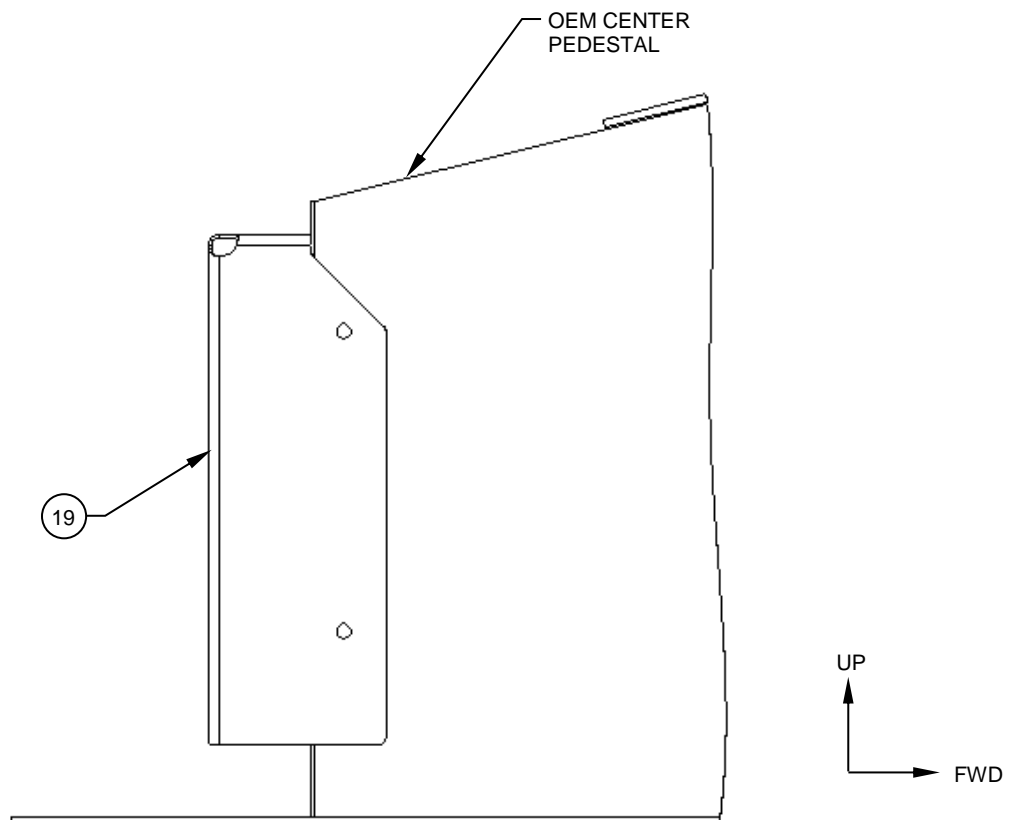

Figure 1
2. Line up the top of the Pedestal Attachment Flange, Detail (Item 19) with the bottom edge of the AAL pedestal riser or the top edge of the OEM center pedestal making sure the Pedestal Attachment Flange, Detail (Item 19) is coincident with the OEM center pedestal. Reference Figure 1 & 2.